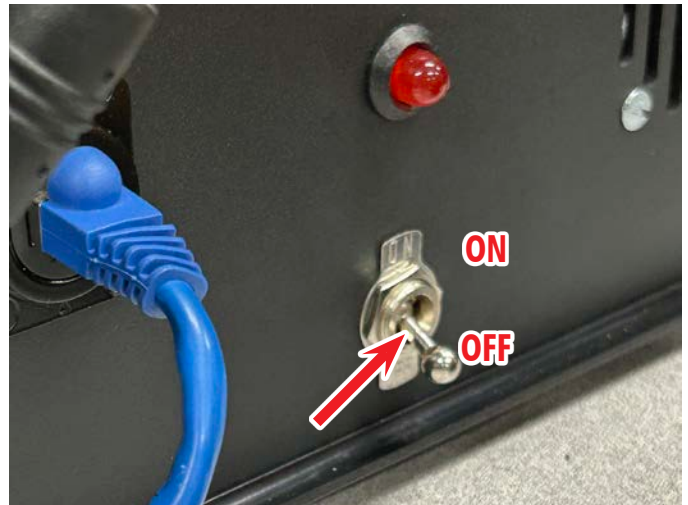

FIGURE 19
14. Turn the Control Off; wait one second, and then turn it back on (see Figure 19).